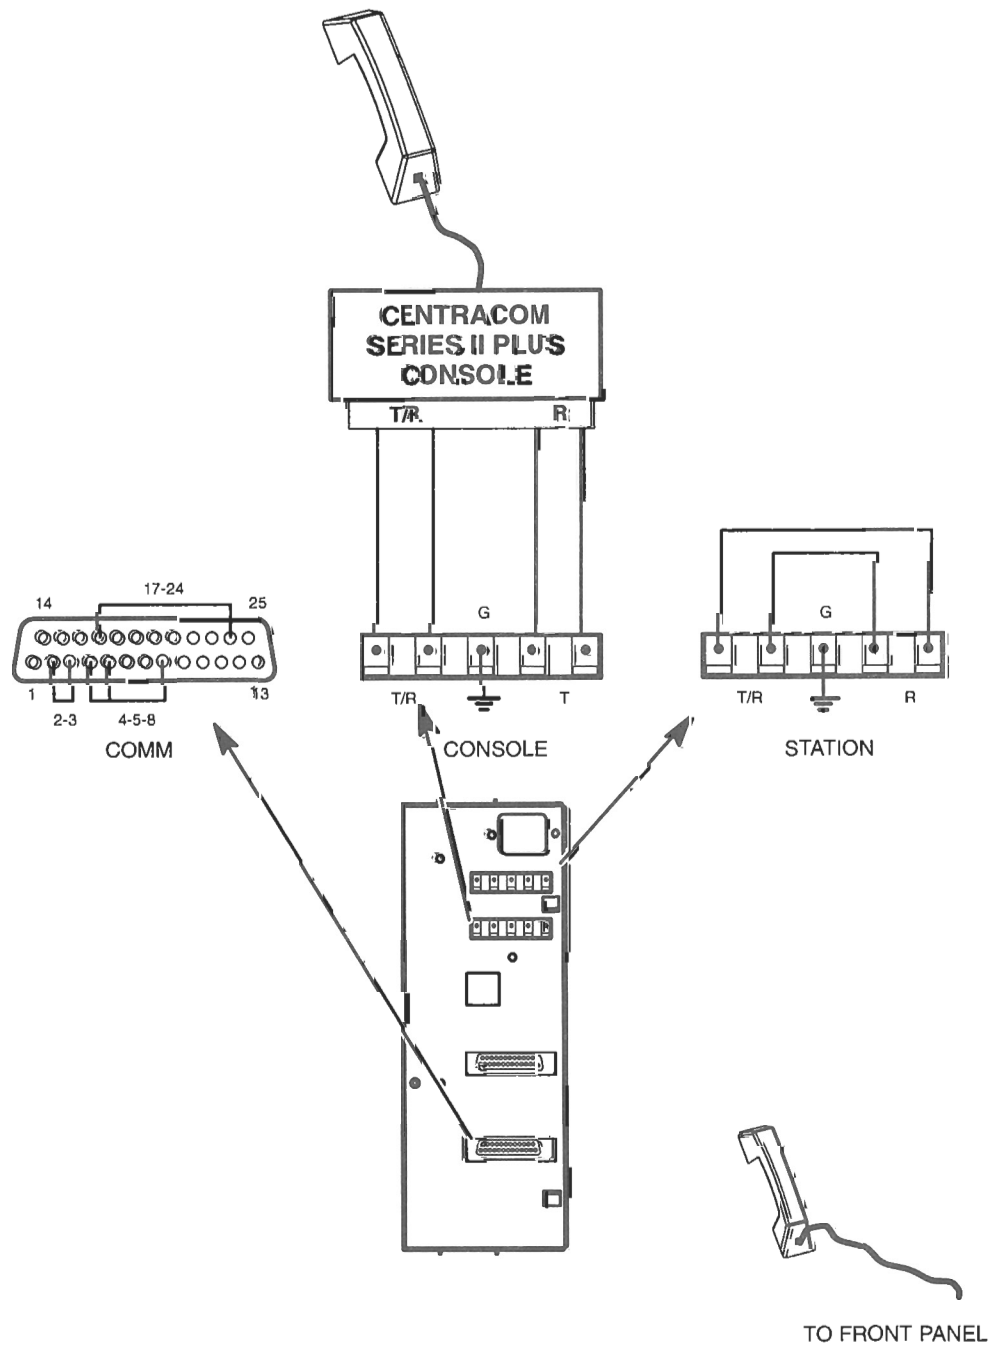

Figure 8
Step 5. Perform the following setup (see Figure 8):
- For the V.24 Digital link: Disconnect adaptor cable FKN4632A from the DIU3000 COMM connector. Connect jumper wires between the following pins of the COMM connector: 2 (TD) and 3 (RD), 24 (TCLK) and 17 (RCLK), 4 (RTS), 5 (CTS) and 8 (CD). Connect jumper wires between the T/R and R terminals of the STATION connector.